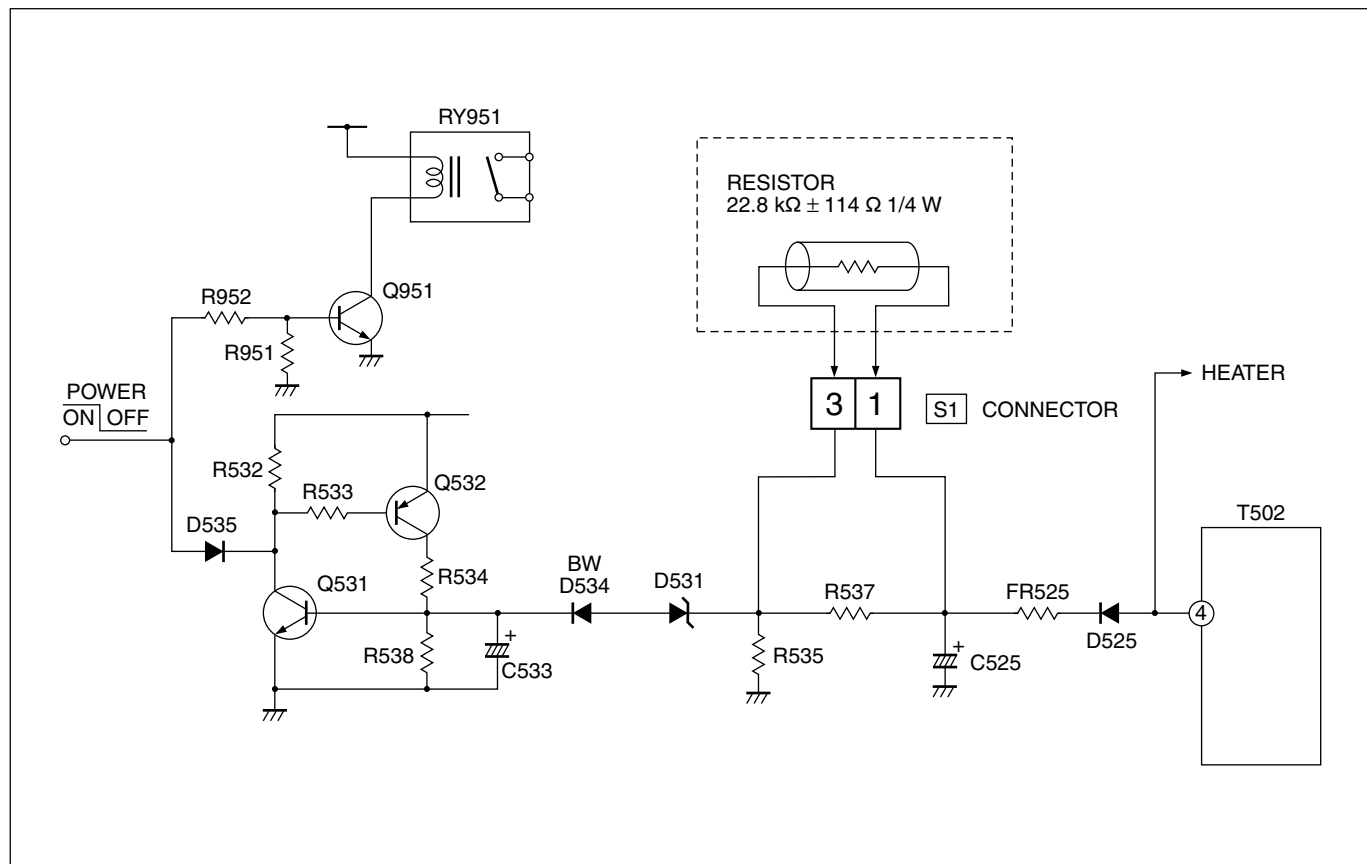

Fig. 1
- (1) Turn the POWER SW ON.
- (2) As shown in Fig. 1, set the resistor (between [S1] connector [1] & [3]).
- (3) Make sure that the screen picture disappears.
- (4) Temporarily unplug the power cord.
- (5) Remove the resistor (between [S1] connector [1] & [3]).
- (6) Again plug the power cord, make sure that the normal picture is displayed on the screen.